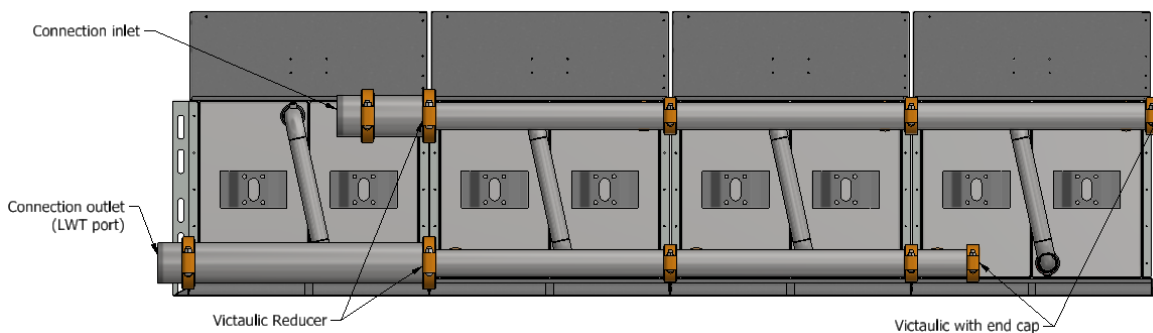

Figure 21. Manifold Layout
3. Check the drawing in your submittal package for the quantity and the size of the pipe and location. Always start installing pipes from the side furthest from the intended system connection. The connection could be on face A or B. The manifold could also install on face C or D, see **Figure 21**. Refer to your submittal for details.
NOTE: Some jobs will require Victaulic reducers to change diameters, see **Figure 21**.